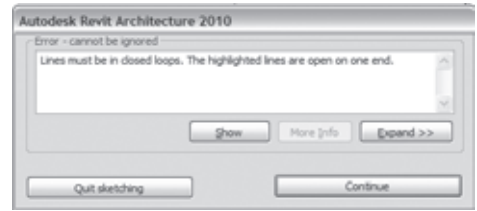

Figure 4.53
3. Not all the walls along the perimeter were selected. This is because the fireplace walls aren't connected at their ends with other walls in the selection. To finish the floor boundary into a closed loop of connected, you need to select the fireplace walls; this will generate lines over those walls. Finally you will need to clean up the lines. Trim the lines so they don't overlap and trim perfectly in a closed loop. If you attempt to finish without adding lines around the fireplace or without trimming and connecting them, your boundary will be invalid and you'll get the warning shown in Figure 4.53.